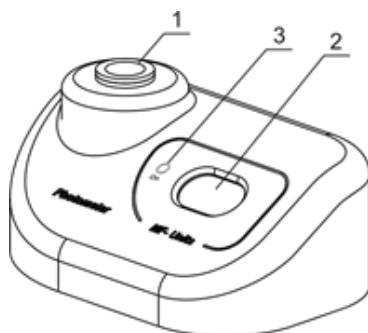

Figure 3. Front view
- Check if the **A-16** adapter is in the socket (fig. 3/1). The device is calibrated for operation with the glass tubes 16 mm in external diameter. To use different tubes, recalibrate the unit, see the **Calibration** section of the manual.
- 5.2. The following indication may be shown on the display (fig. 3/2):
Note. The display of **DEN-1B** switches off if the socket is empty for longer than one minute. Press the **On** key (fig. 3/3) to activate the unit.
- 5.3. Shake the tube with the solution. It is recommended to use a vortex for shaking, e.g. **Grant V-1 plus**. Insert the tube into the socket of densitometer (fig. 3/1). The McFarland value for the solution will be shown on the display (fig. 3/2).
- 6.6.2. **Transparent standard.** Display shows **0.00** indication. Insert standard for **0.00** value into the socket (fig. 3/1) of the unit. If the standard for 0.00 value is not available, fill the tube (of the kind that is used for operations) with distilled water. Use the tube as the **0.00** value standard. Press **Install** button to save empty socket value. Display shows next required calibration value.
- 6.7. **Common calibration rules.** Display shows indication of necessary calibration value. Insert the necessary standard into the socket (fig. 3/1) of the unit and press the **Install** button to save the value for current standard.